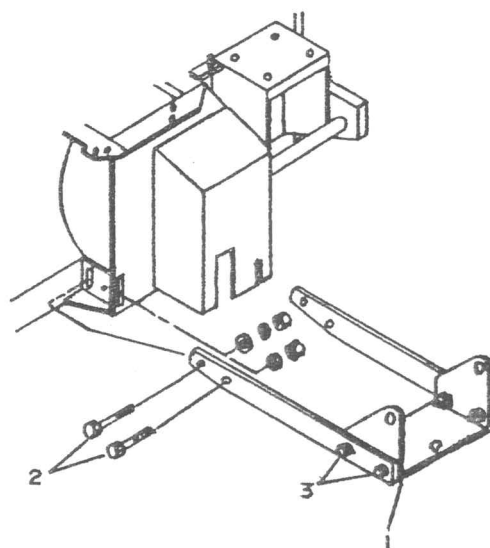

FIGURE 4
- h) Install the push frame assembly (fig. 4, item 1) on the back of snowblower and secure in place using four $\frac{7}{16}$ X $1 \frac{1}{4}$ " bolts (item 2). Secure bolt in the slot closest to collector housing with flatwasher, lockwasher and nylon nut and secure three other bolts with lockwashers and nylon nuts. Do not tighten yet. See Step 4 item d.